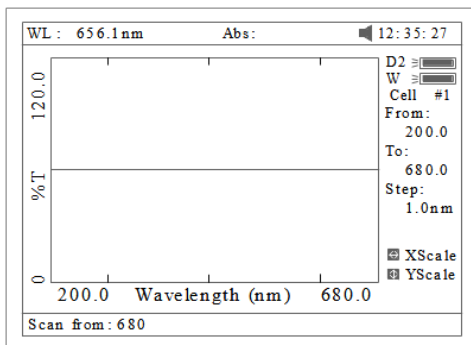

Fig 42
1. Press **【F1】** to setup, input the start wavelength, and end wavelength by pressing the numeric keypad (Fig 42). Note: This instrument scans from high to low wavelength. Browse and select the items of scan step and scan speed by pressing **【λ】** or **【v】**.